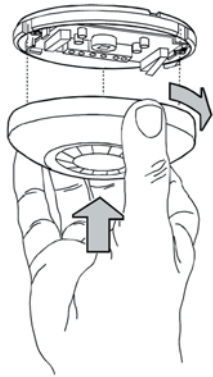

Figure 2: Removing the cover
C. Hold the unit base as shown in Figure 2. Rotate the cover counter clockwise until it stops. Separate the cover from the base.